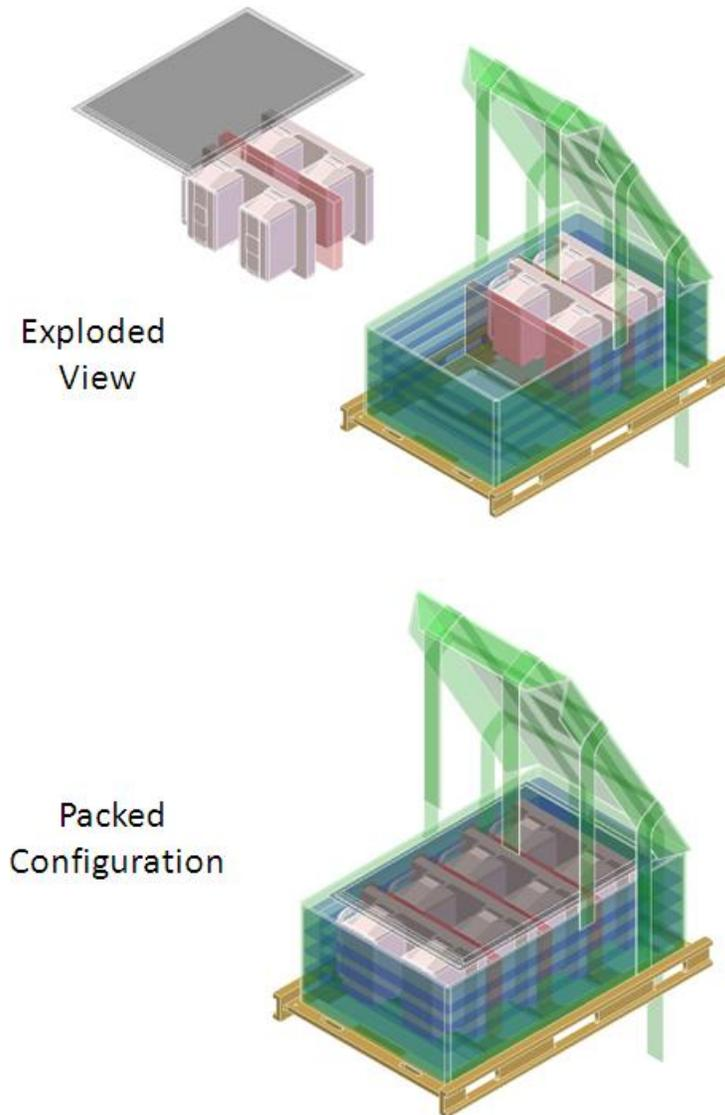

Figure 4. MERLIN Pouch Assembly Containing the MERLIN Harness Neuro Rad.
- 2.1 Quickly remove Neuro Rad (4) from MERLIN Pouch Assembly (Figure 4), leaving packing material in Pouch.